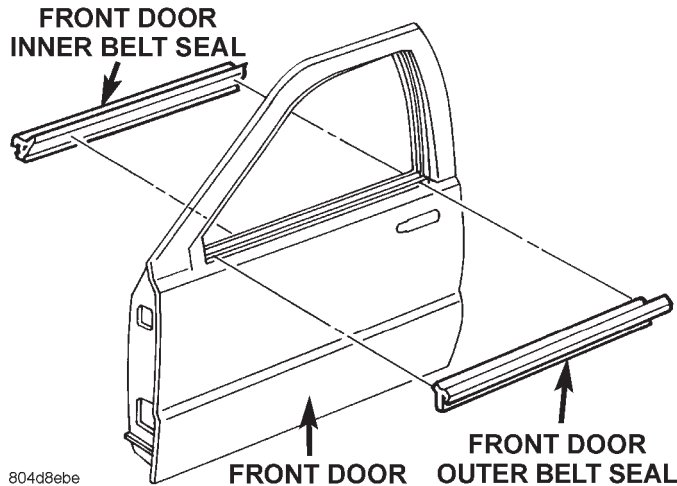

Fig. 22 Front Door Inner Belt Seal
- (1) Remove door trim panel.
- (2) Using a trim stick, carefully pry rear inner edge of seal upward.
- (3) Grasp seal and pull upward to separate from door flange (Fig. 22).